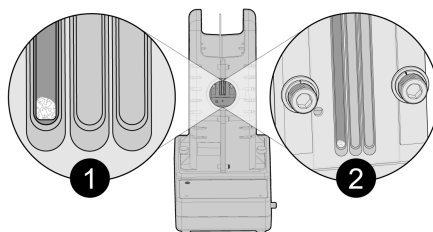

Figure 2. Melting Point Apparatus with sample in capillary tube
5. Insert the closed end of the capillary tube into an open chamber in the MPA as shown in Figure 2. A magnified image of the sample will be visible on your screen if you are using a USB Camera (①) or in the eyepiece (②).